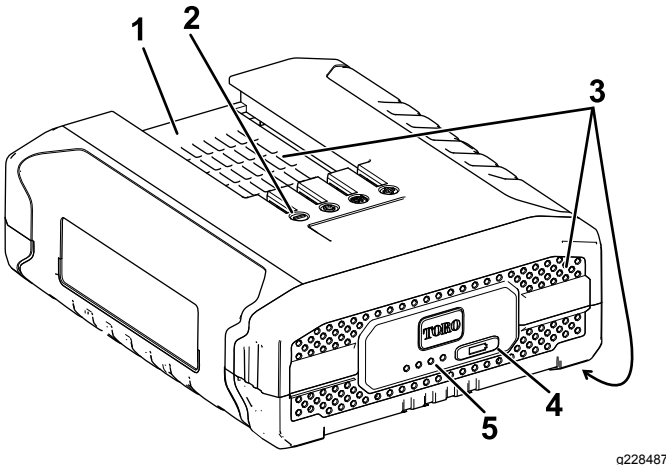

Figure 11
2. Line up the cavity in the battery pack (Figure 11) with the tongue on the charger.